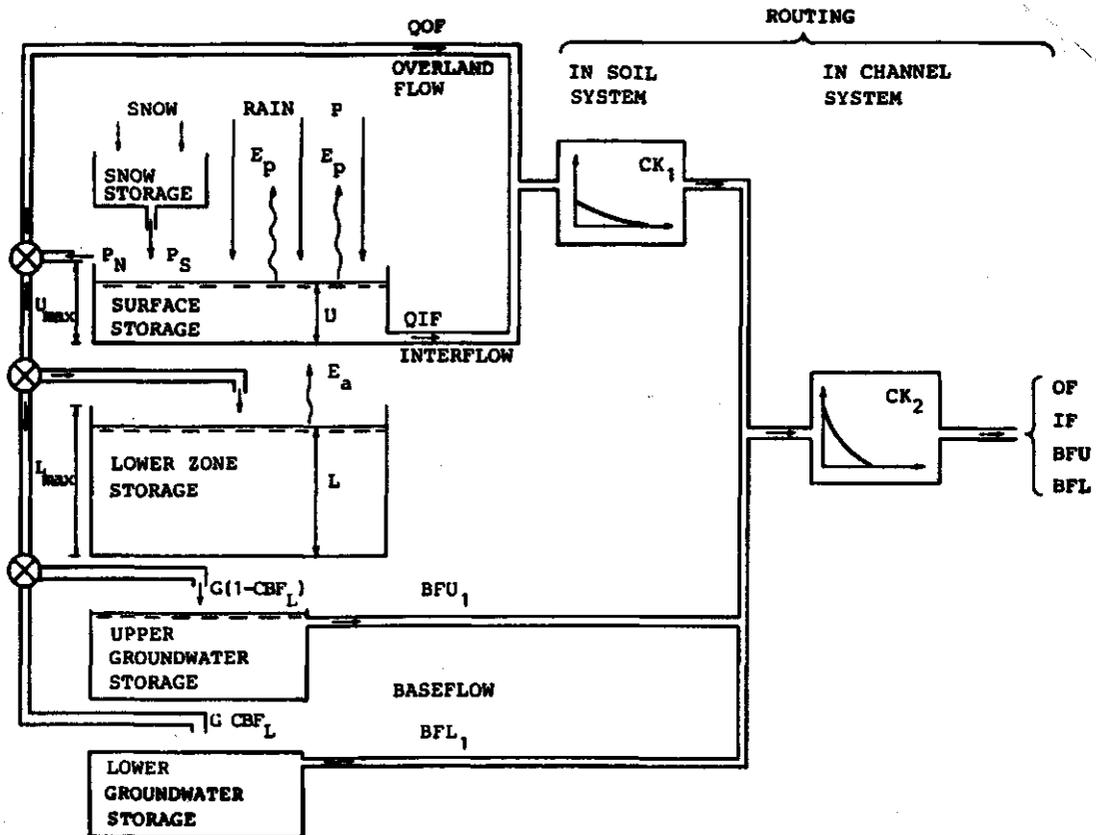

Figure 2.1 Structure of the NAM model.
Figure 2.1 shows the model structure. It is an attempt to make a simplified imitation of the land phase of the hydrological cycle.
2. Moisture intercepted on the vegetation, as well as water trapped in depressions and in the uppermost part of the cultivated part of the ground is intercepted as surface storage. U_{MAX} (see figure 2.1) denotes the upper limit to the amount of water in surface storage.
The two storages act as linear reservoirs having the time constants, CK_{BFL} and CK_{BFL} . (These linear reservoirs are not to be mixed up with the linear reservoir used for routing the output of the entire NAM model, see figure 2.1.)
As indicated in figure 2.1, the interflow and overland flow contributions, Q_{IF} and Q_{OF} , are routed through two linear reservoirs with time constants CK_1 and CK_2 respectively. The base flow contributions from the upper and lower groundwater storages are routed through the second linear reservoir only.